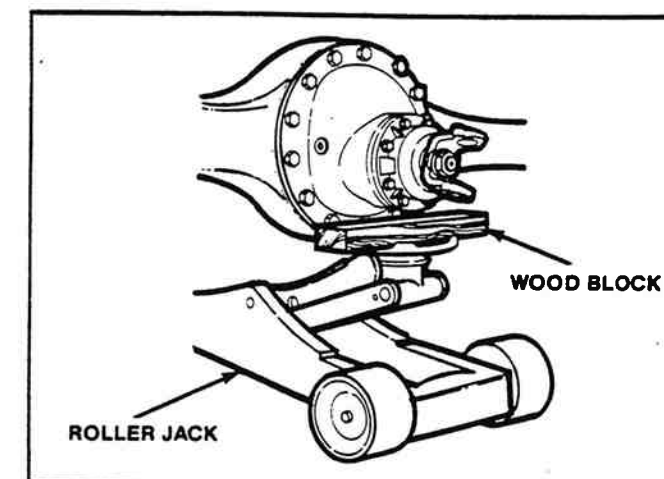

Figure 2-8. Supporting Carrier Assembly.
6. Place a hydraulic roller jack under the differential carrier to support the assembly (Figure 2-8).